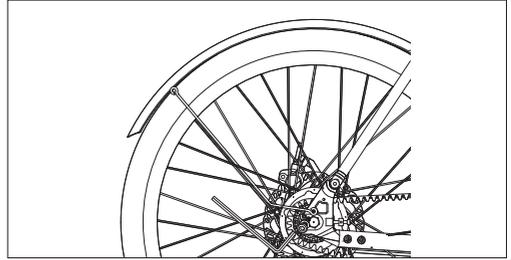

Figure 6-2
- After fastening the upper bracket, use a 4 mm Allen key to remove the 2 screws at the dropout. Then, align the legs of the front fender with the installation holes, as shown in **Figures 6-2 and 6-3**, and then re-tighten the screws.